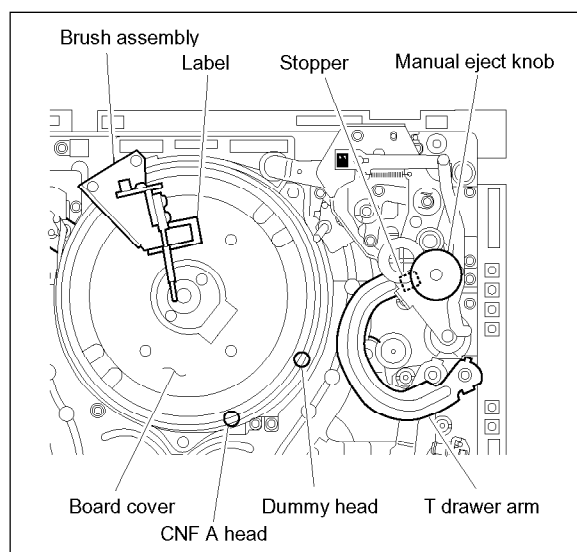

Figure 2. Alignment of Drum Position
4. Position a probe between the dummy head and CNF A head. (Refer to Figure 2.)